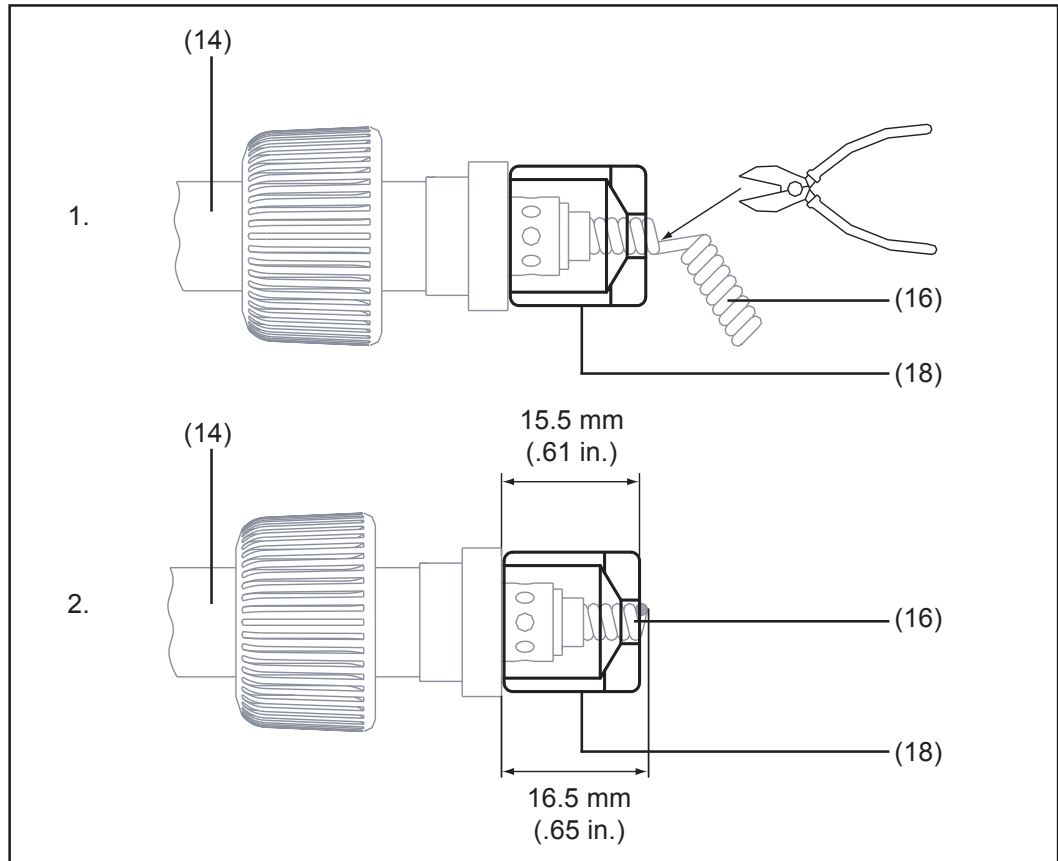

Fig.9 Cutting the inner liner to length using the cutting-to-length sleeve
The inner liner (16) must be cut to length very exactly at the swivel nut (13). Fig.9 shows you how to do this using the cutting-to-length sleeve (18).
- Push the cutting-to-length sleeve (18 - was supplied with the PT Drive) onto the torch neck (14), until it fully engages (Fig.9, 1.)
- Using the oblique cutting pliers, cut off the inner liner (16) at the front face of the cutting-to-length sleeve (18) (Fig.9, 1.)
After being cut to length, the inner liner (16) may not protrude out of the hole in the cutting-to-length sleeve (18) by any more than a maximum of one turn of the spiral coil (Fig.9, 2.).